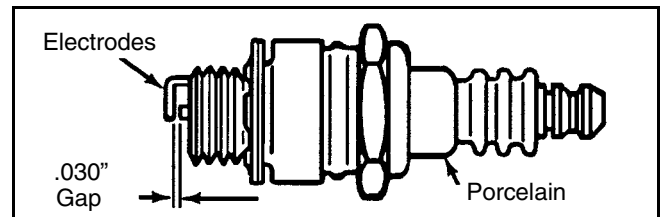

Figure 11
- Replace the spark plug if electrodes are pitted, burned, or the porcelain is cracked. See Figure 11.